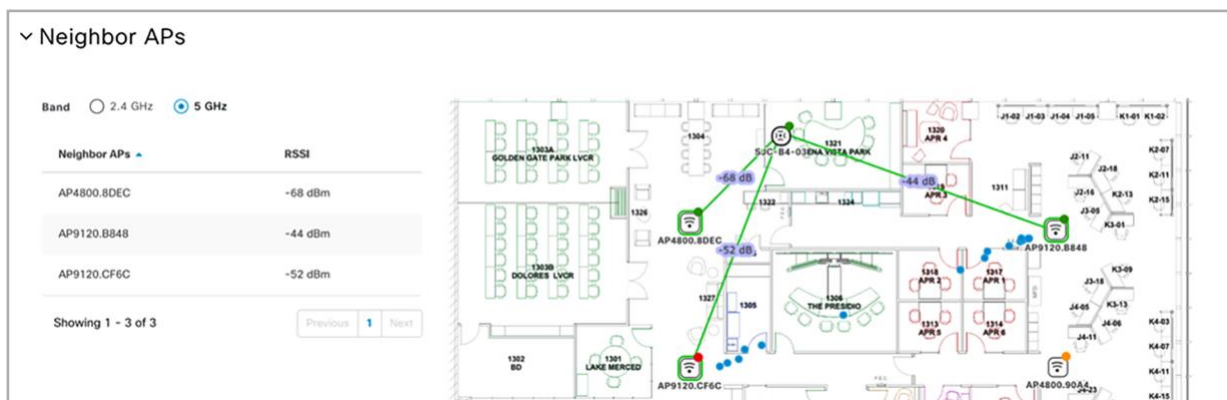

Figure 95.
- d. To view all APs neighboring your sensor, scroll down to the Neighbor APs dashlet within the Sensor 360 page (**Figure 95.**).